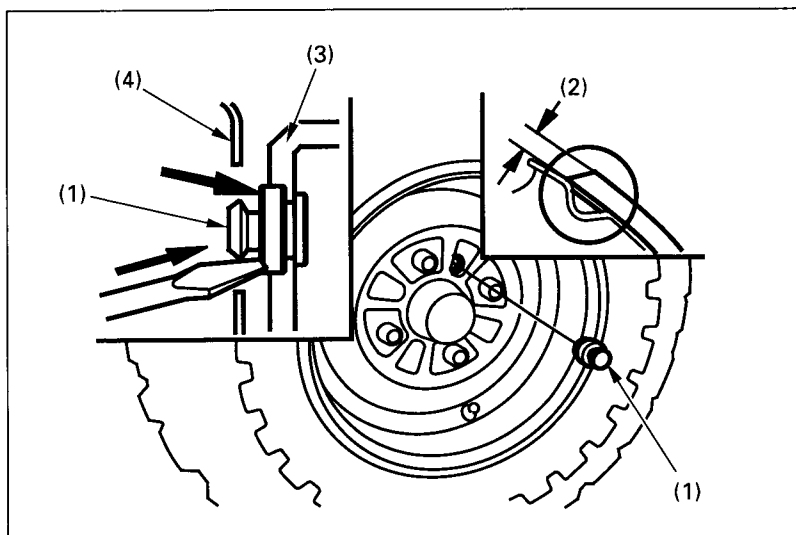

Fig. 4-25 (1) Inspection hole plug
2. Remove the inspection hole plug (Fig. 4-25) and measure the lining thickness (2) on both front wheels.